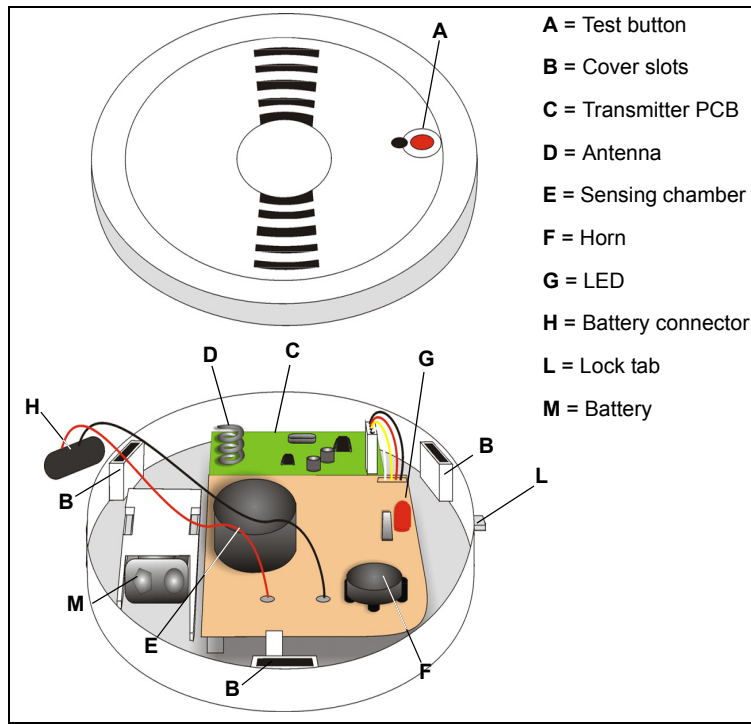

Figure 2: Mounting
For optimal detection, the unit should be mounted as close to the center of the ceiling as possible. Always test the unit before it has been powered and after installation as outlined in "Testing the Smoke Detector". After selecting the detector's location, drill or punch out holes for the screws as shown in Figure 2 on reverse and follow the steps outlined below.
4. Join the detector to the mounting bracket, by aligning the lock tab to the preferred lock slot (Figure 2 on reverse), then turn counter-clockwise to lock detector into place.
Remove the detector from the mounting bracket by gently pulling the detector, then turning clockwise as shown in Figure 2 on reverse.